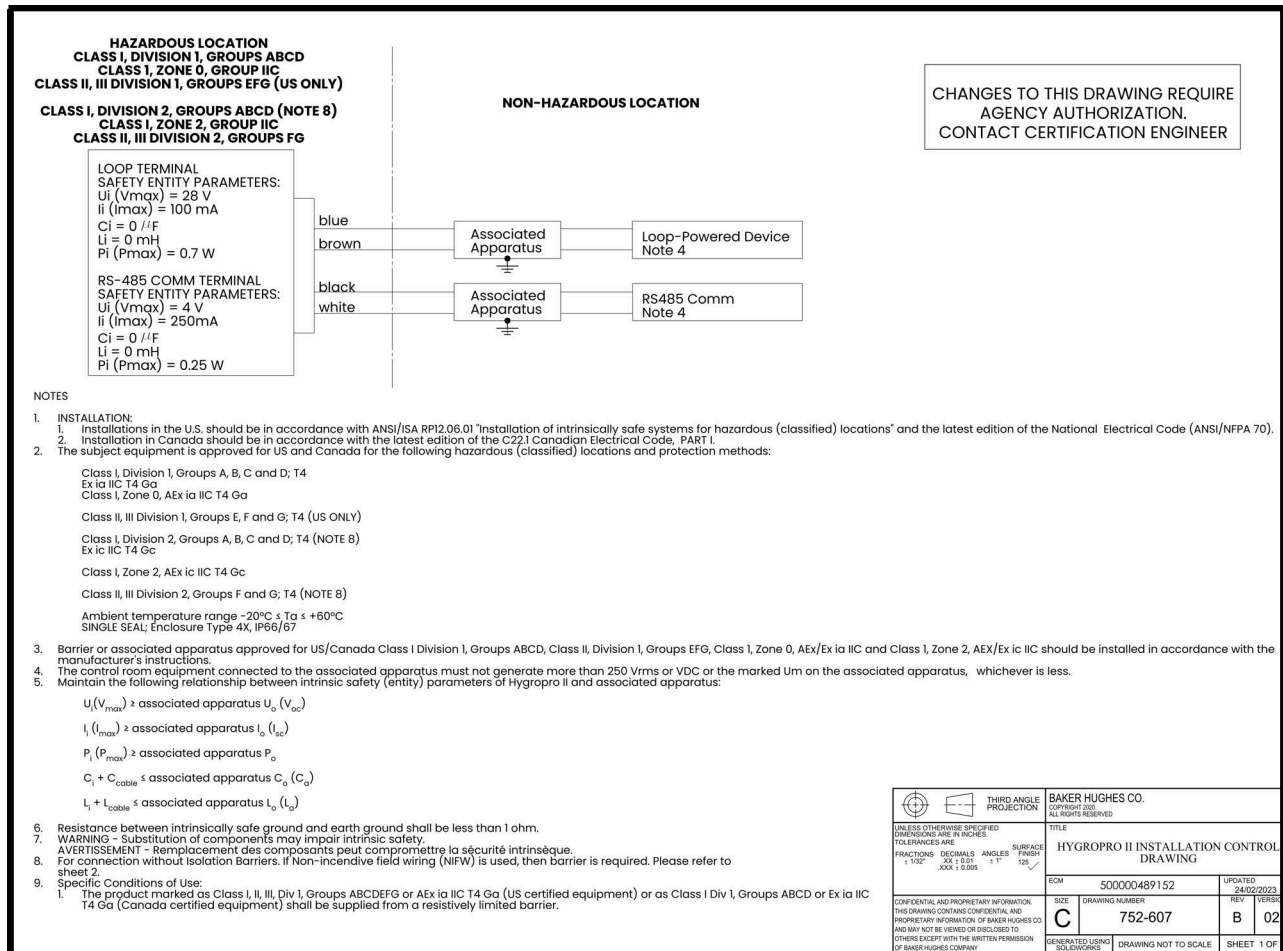
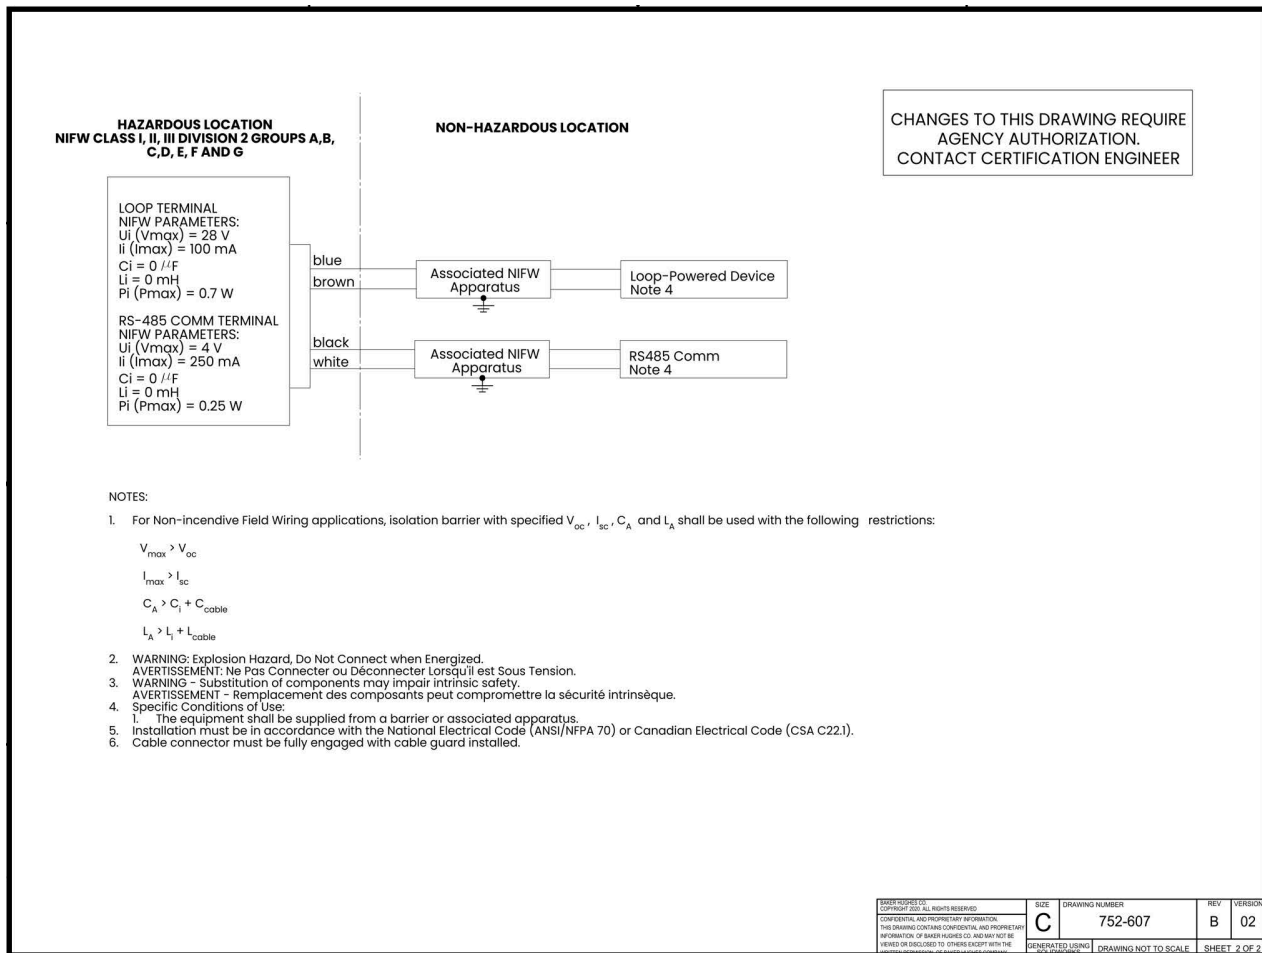

Figure 10: HygroPro^{II} Installation Control Drawing for Division 1 and Division 2 locations (refer to 752-607)
Figure 11: HygroPro^{II} Installation Control Drawing for Non-incendive field wiring in Division 2 locations (refer to 752-607)
- the FM Schematic drawing (see Figure 10 below)
For wiring the HygroPro^{II} in hazardous (classified areas) connect the flying lead end of the IS cable assembly supplied with the transmitter as shown in the installation control diagrams in Figure 10 and Figure 11, according to one of the following conditions:
- **With appropriate rated Zener Barrier/Galvanic Isolator:** Required for use in Class I, Zone 0 and Class I/II/III Division 1 hazardous areas (Figure 10).
- **Non-incendive Field Wiring and Zener Barriers:** For use in Class I/II/III, Division 2 hazardous areas only (Figure 11).